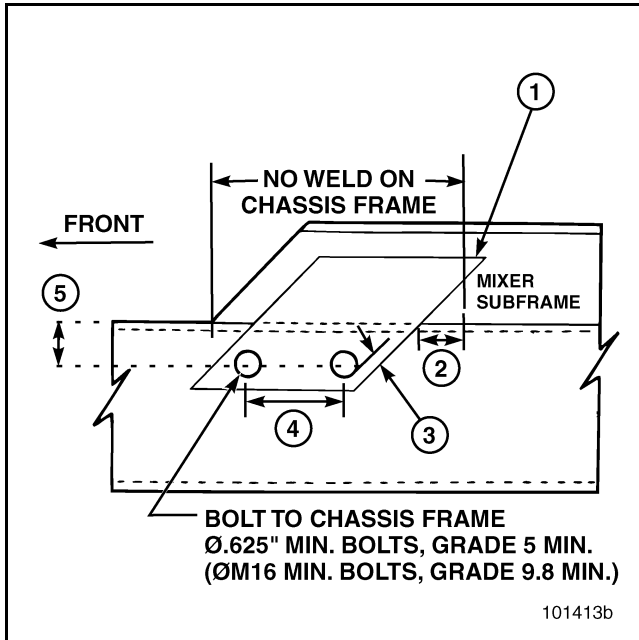

Figure 119 — Subframe Transition Plate
- The subframe to chassis weld should begin approximately 25.4 mm (1 inch) behind the transition plate. Refer to Figure 119.